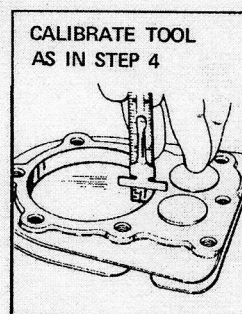

Fig. 28 BEFORE T.D.C.
3. Check the height of piston in relation to top of cylinder block with a pocket scale, caliper or micrometer depth gauge for T.D.C. Fig. 28.